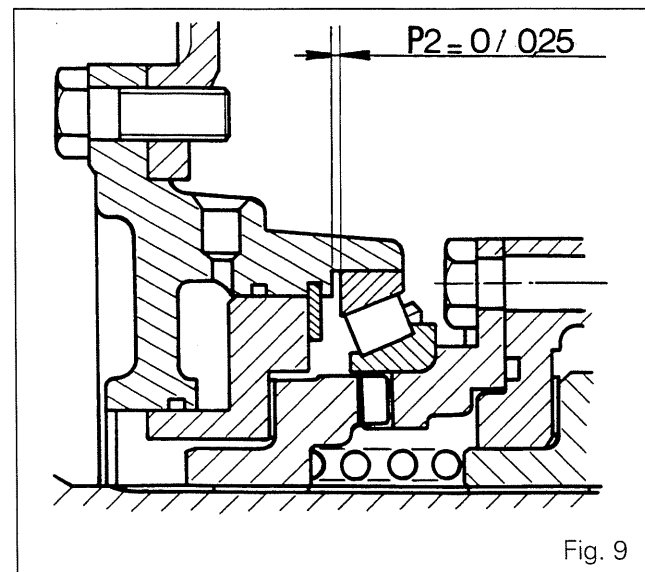

Fig. 9
60. Proceed with shimming (Fig. 9) to obtain the following preloading: